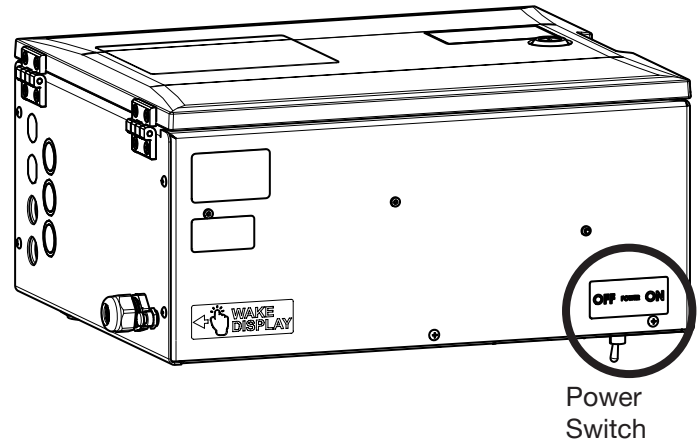

Figure 2. Set Power Switch to OFF
3. Set the power switch to OFF (Figure 2).